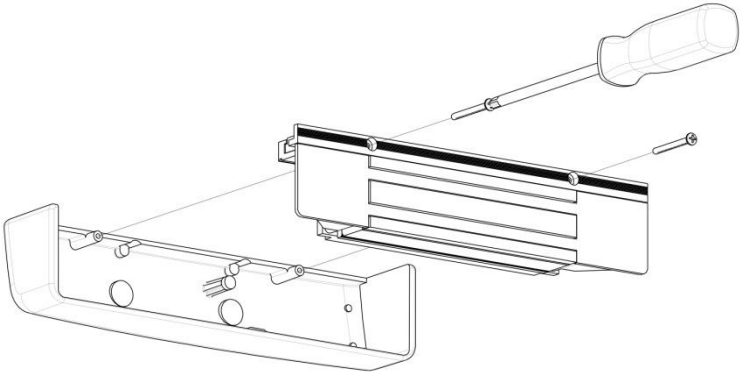

Figure 4. Removing the Cover Screws
1. Using a Phillips screwdriver, REMOVE the two (2) screws securing the cover, as shown in Figure 4, "Removing the Cover Screws."